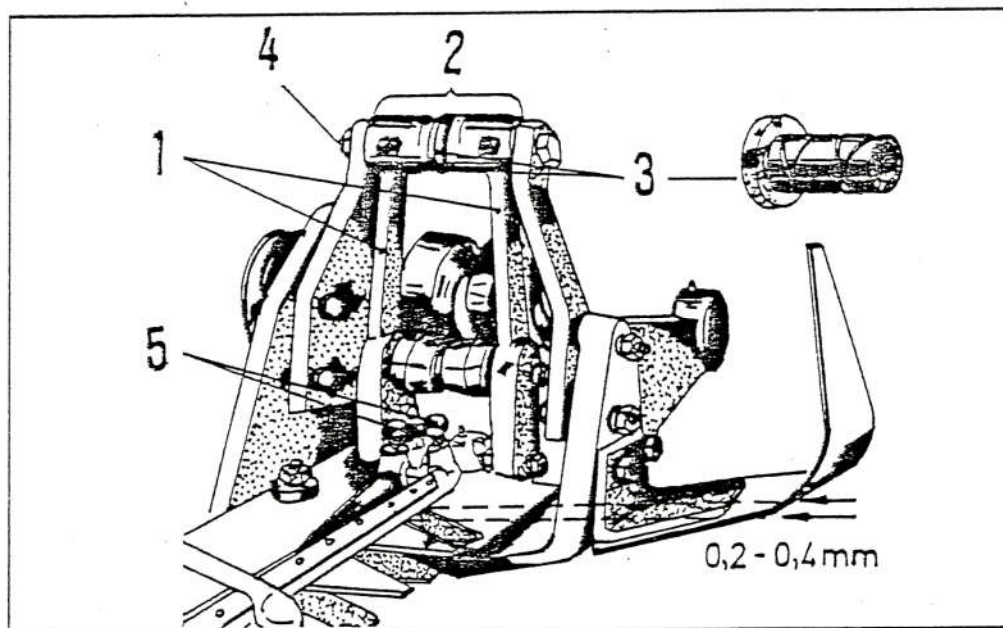

Figure 7
- Release the screws that connect the cutting rods to the drive mechanism of the mower (fig. 7, item 5).
The two-lever levers (Figure 7, Item 1) oscillate in the upper bearing (Fig. 7, Item 2) in which the bronze shells are embossed, and these around the eccentric beads (Figure 7, 3) which serve to determine the gap of the cuttings working position.
- Unscrew the crown nut (item 4, fig. 7) on the top pin until the camshaft can be started manually or with the help of tools.
- After completing the clearance, the crown nut (item 4, fig. 7) is firmly tightened and secured by a gap from self-locking.